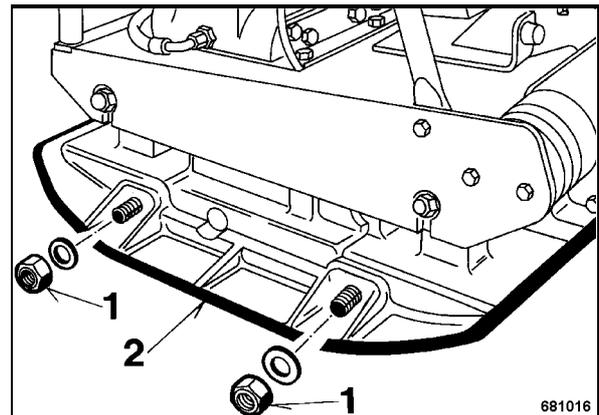

Fig. 71
- Unscrew the fastening nuts 1 (Fig. 71) for the extension plates (2) and remove the plates from both sides.